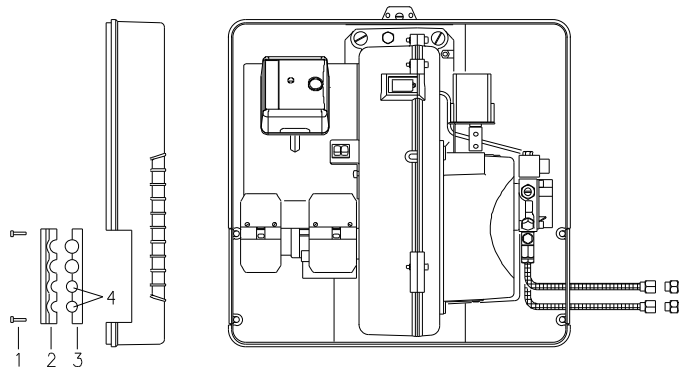

Fig. 16
- unscrew the screws 1)(Fig. 16), now divide the insert piece into its two parts 2) and 3) and remove the thin diaphragm blocking the two passages 4).